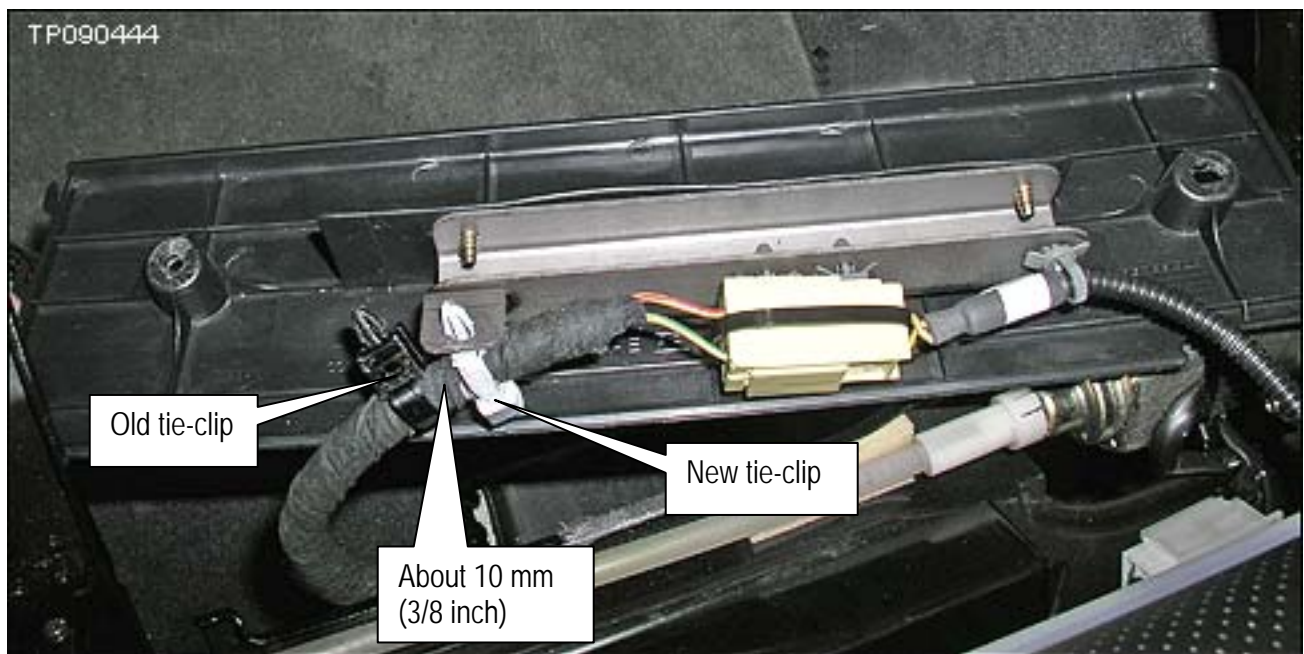

Figure 23
28. Install a new tie-clip at the position shown in Figure 23.